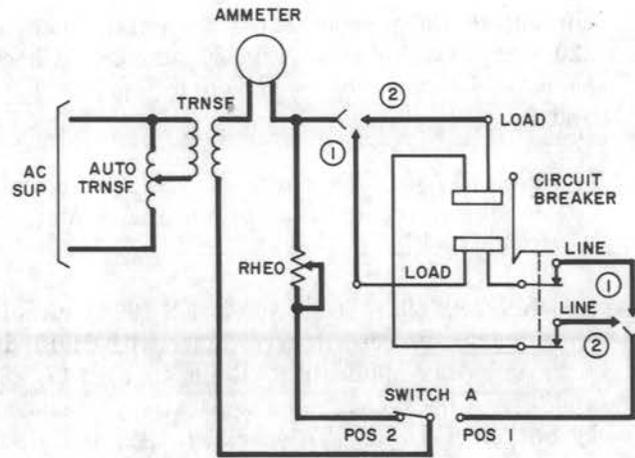

Fig. 19—Checking Circuit—AC Breakers—KS-5786 L1, KS-15659 L3-L12, L14, KS-15815 L25-L35, L40
- (b) **KS-5786:** To check a KS-5786 circuit breaker, proceed in accordance with Method 3. Refer to Fig. 19. Check each pole separately as shown by options 1 and 2.
- (d) **KS-15659:** To check a KS-15659 circuit breaker, proceed in accordance with Methods 1 and 3 as applicable. Refer to Fig. 19, 20, and 22. Check each pole separately as shown by options 1 and 2. L16 is a switch only.